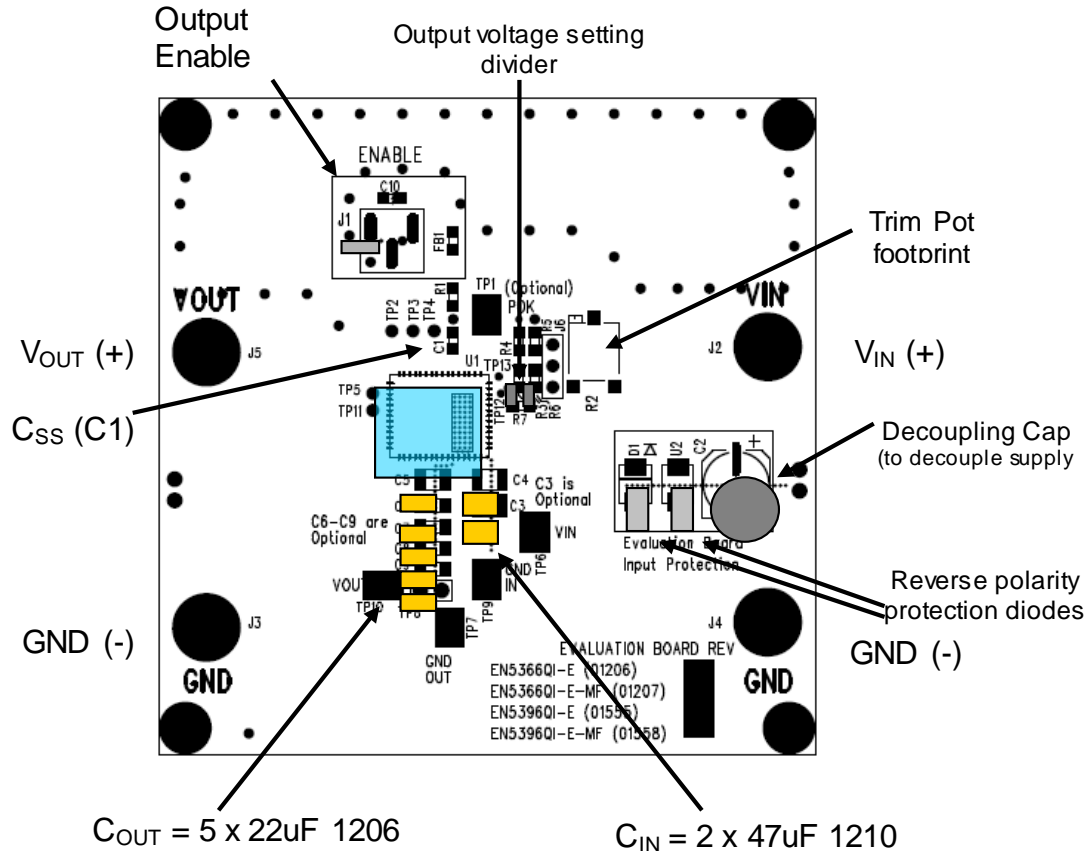

Figure 1. Evaluation Board Layout.
Figure 1 shows a top view of the evaluation board.
**STEP 2:** Connect Power Supply to the input power connectors, VIN (+) and GND (-) as indicated in Figure 1 and set the supply to the desired voltage.
**STEP 3:** Connect the load to the output connectors VOUT (+) and GND (-), as indicated in Figure 1.